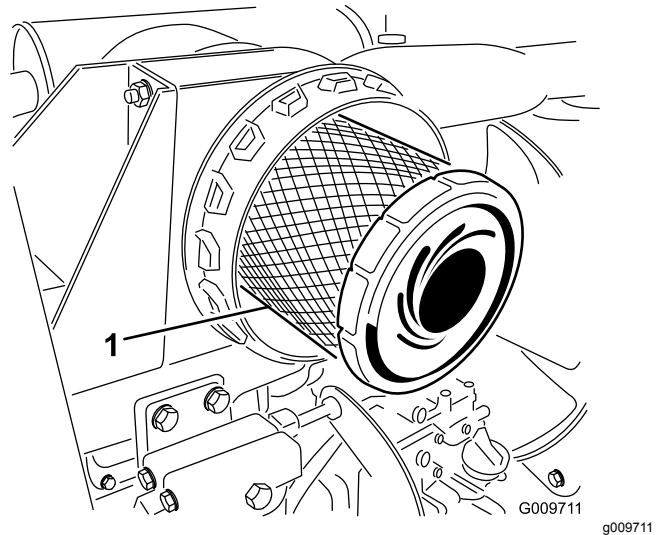

Figure 34
3. Remove and replace the primary filter (Figure 34).